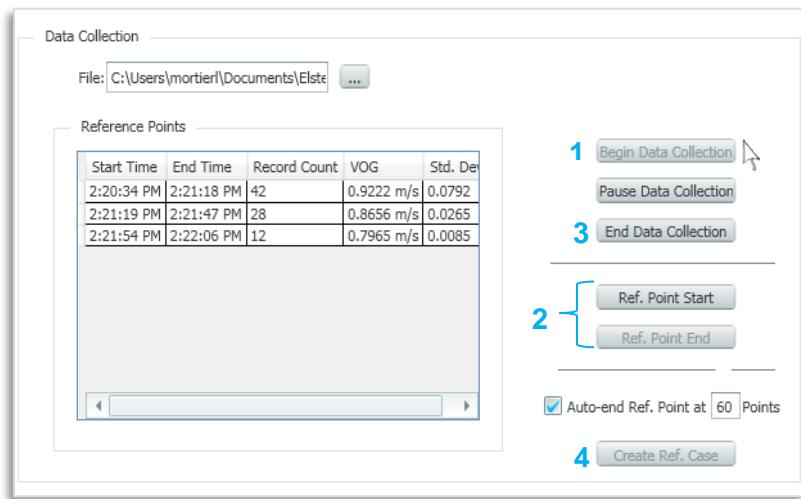

Figure 18-6 Steps for creating a new reference case
- ▶ Click on **Begin Data Collection** (Marked as 1 in Figure 18-6)
- ▶ Press the **Ref. Point Start** button. (Marked as **2** in Figure 18-6.) SonicExplorer will ask for some process conditions. For information on process conditions ⇒ see Chapter 11 Meter Monitoring \(Service\) (p.33). Meanwhile, SonicExplorer will start making a reference point for the number of desired points.
- ▶ Press **Ref. Point Start**; (marked as **2** in Figure 18-6) SonicExplorer will again ask for some process conditions. ⇒ See Chapter 11 Meter Monitoring \(Service\) (p.33) for more information on process conditions. Meanwhile SonicExplorer will begin making a reference point.
- ▶ SonicExplorer will only stop recording the reference point when **Ref. Point End** is pressed. (Marked as **2** in Figure 18-6.)
- ▶ When all reference points are taken, press **End Data Collection**. (Marked as 3 in Figure 18-6.) Sonic Explorer will stop logging the data.
- ▶ Click on the **Create Ref. Case** button. (Marked as 4 in Figure 18-6.) A menu will pop-up for naming the reference case. Please fill in as desired.
- ✓ All reference points will be shown in the **Data Collection** table, labeled as **Reference Points** as seen in the left hand side of Figure 18-6.